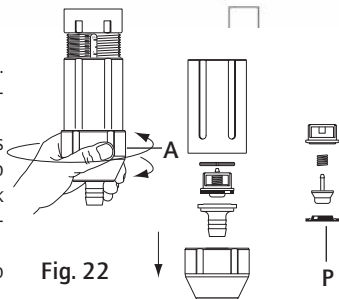

Fig. 22
- Unscrew the blocking ring (Fig. 22-A).
- Thoroughly rinse all single parts with water, reassemble according to the drawing (Fig.22-P) and check that the suction valve spring is in correct operating condition.